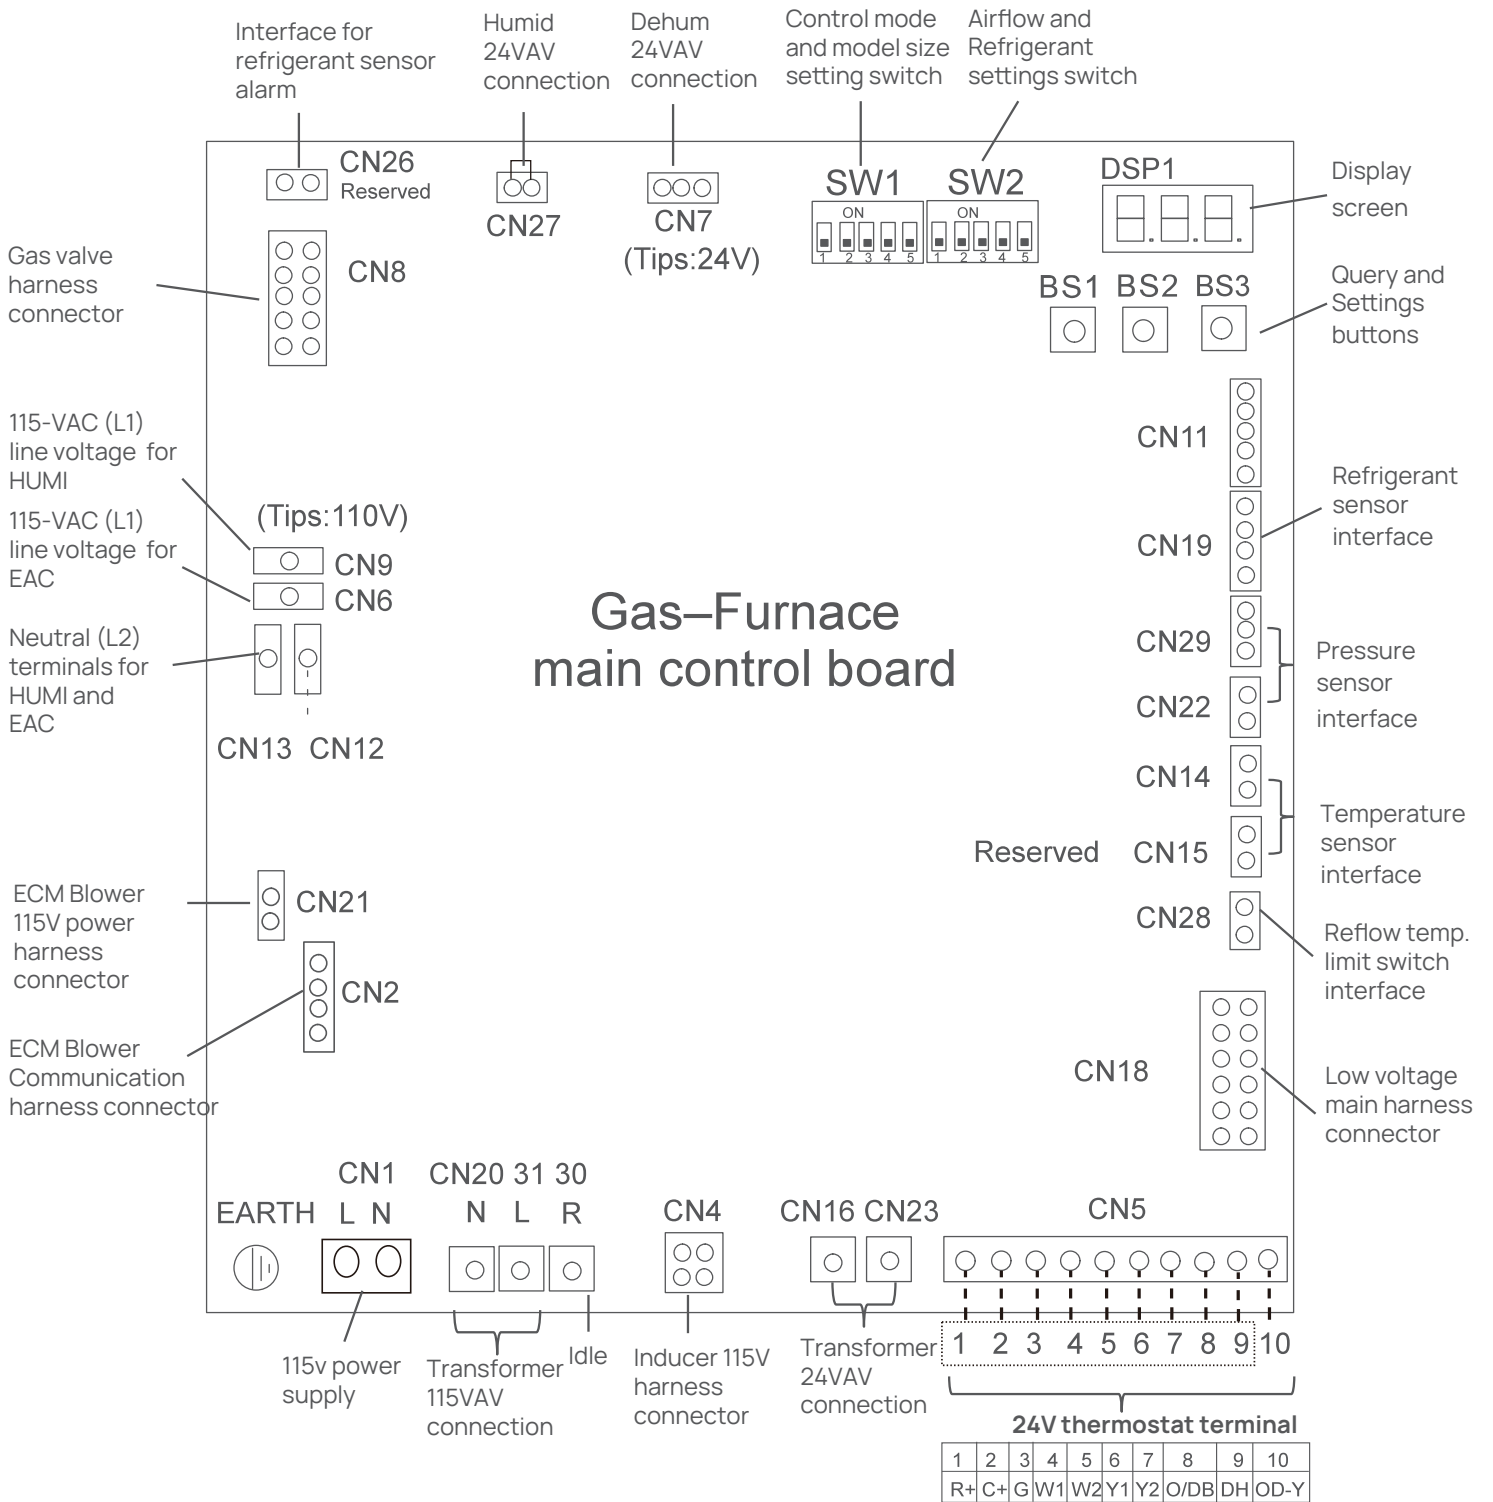

Fig. 48 – Example of Modulating Furnace Control
1. Electronic Air Cleaner (EAC) Connect an accessory Electronic Air Cleaner (if used) using 1/4-in female quick connect terminals to the two male 1/4-in quick-connect terminals on the control board marked CLANERS. The terminals are rated for 115V AC, 1.5 amps maximum and are energized during blower motor operation. (See Fig. 48)
2. Humidifier (HUM) Connect an accessory 115V AC, 1.5 amp. maximum humidifier (if used) to the 1/4-in male quick-connect HUM-H terminals terminal is energized when gas valve relay is energized. (See Fig.48)